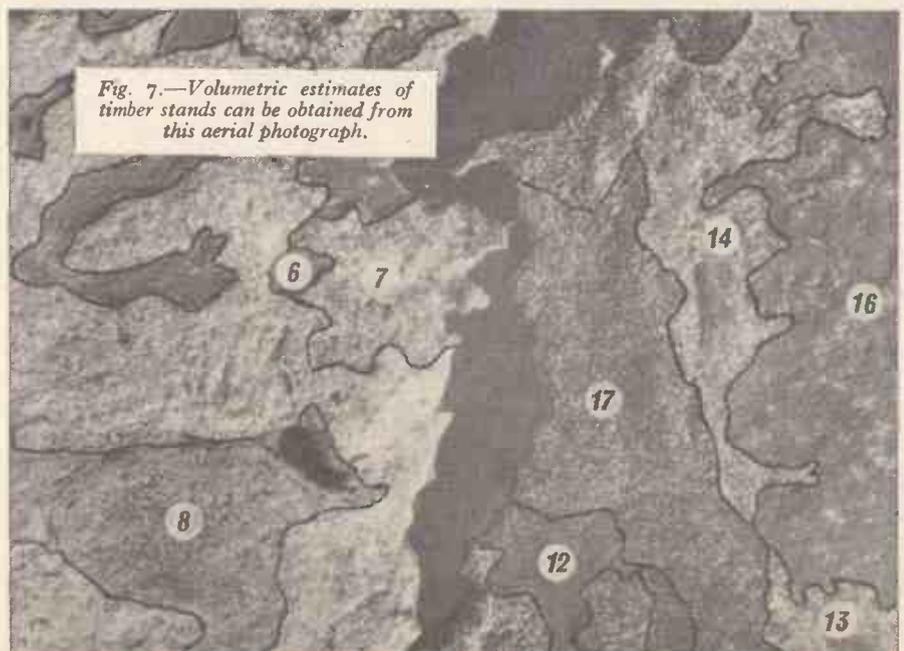

Fig. 7.—Volumetric estimates of timber stands can be obtained from this aerial photograph.
In forestry surveys volumetric estimations of timber stands can be made from photographs while the use of infra-red film or filters enable a separation of the species. Fig. 7 shows a forestry survey and some of the volumetric estimates of timber stands are: (8) Tree height 50 ft., 88 trees to the acre; upper hill slope; 60 per cent. hard woods, 40 per cent. soft woods. (14) Tree height 45 ft.; 108 trees to the acre on lower slopes; 40 per cent. birch and poplar; 60 per cent. soft woods. (17) Tree height 45 ft., 104 trees to the acre; wet flat ground; 10 per cent. birch and poplar; 90 per cent. spruce. The height may be determined from stereoscopic views showing both base and tops of trees.